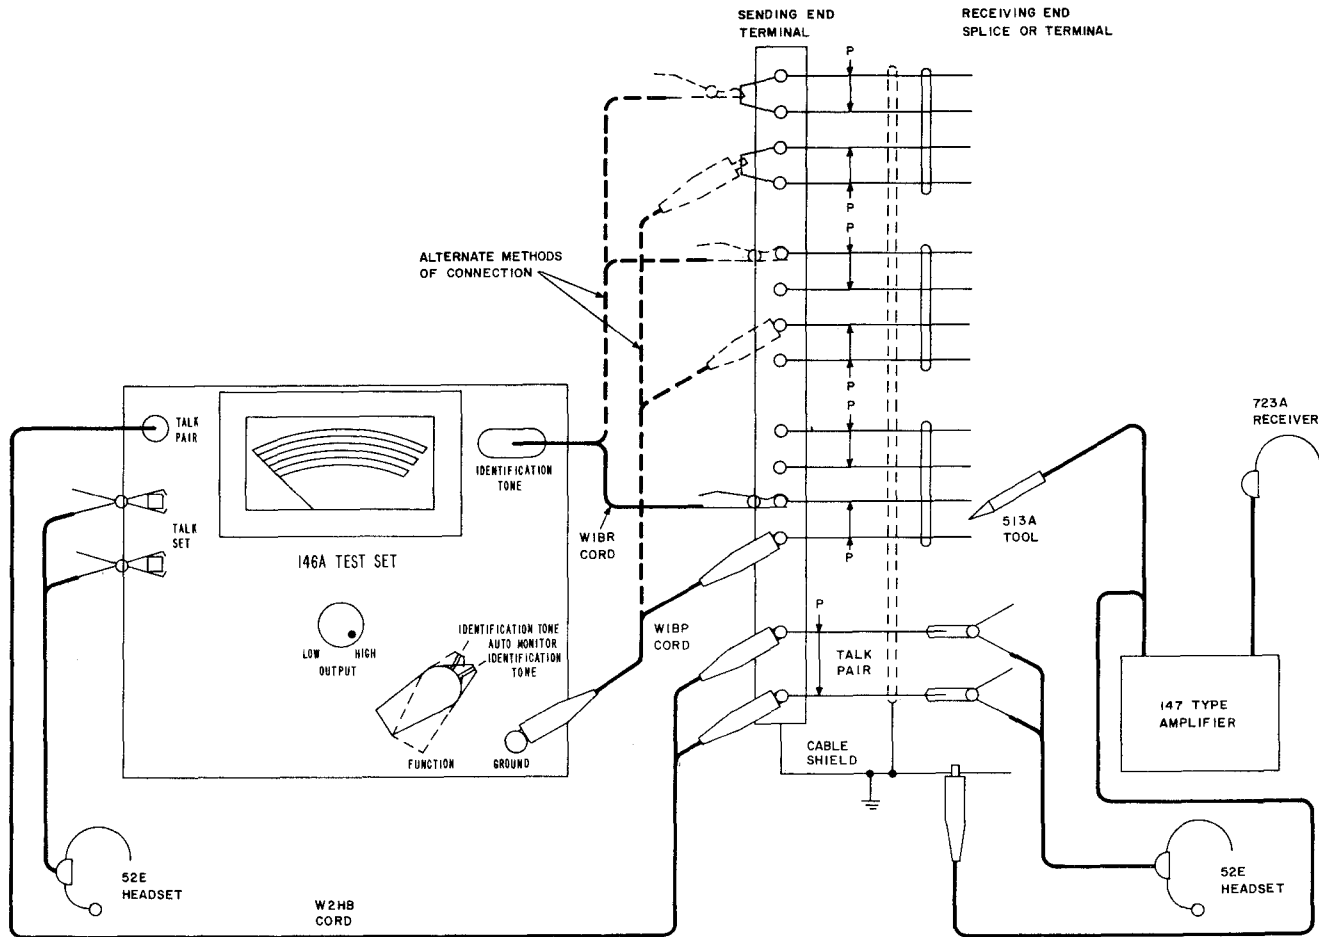

Fig. 12—Identifying Conductors in Quadded Cable—Tone Sent From Terminal Location
- 5.24** If it is desired that tone be sent from a terminal location, refer to Fig. 12. Establish a talking circuit as described in Part 4.
Warning: When used as shown in Fig. 12 the case of the test set is not at the potential of the cable shield but is at the potential of the wire to which the W1BP cord is attached.
5.27 Two alternate methods of connecting the W1BR cord and the W1BP cord are also shown in Fig. 12.